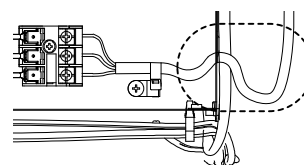

Fig. 23
- Be sure that the shape of the power supply cable and any other cable, before entering unit, should be as shown in **Fig. 23**.